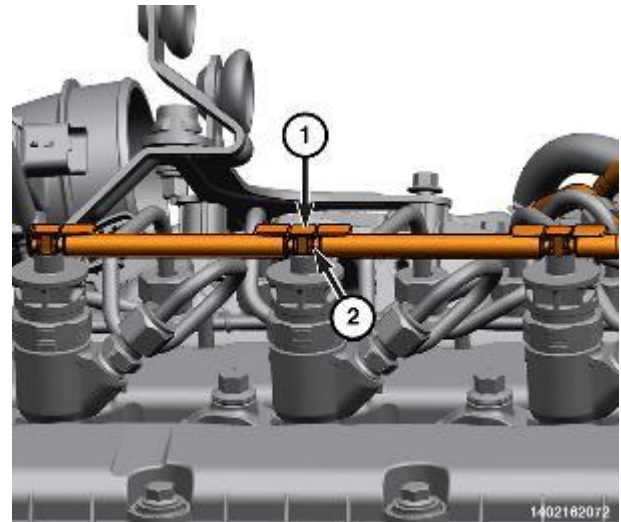

Figure 105 – Fuel Return Hoses
22. Lift up on locking tabs (1) to unlock the locks (2) on the right bank fuel return hoses on the tops of the injectors (Figure 105).
23. Remove the fuel return hoses (2) by wiggling hoses free from the fuel injector (Figure 105).